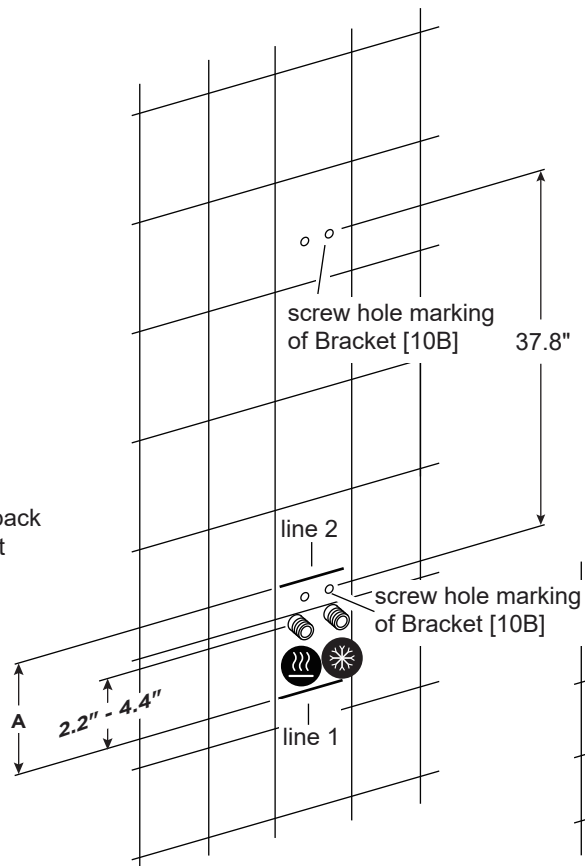

Fig 2.2
- 2-2** Measure the distance A between the bottom of the shower panel and the lower **Bracket [10B]**. Then draw line 2 above line 1 at the distance A. (Fig 2.2)
- 2-4** Position another **Bracket [10B]** above the previous one on the wall so the screw holes are 37.8" above the screw hole marks for the first bracket and center with the center line between the outlets. Then mark the screw holes of the second **Bracket [10B]** on the wall. (Fig 2.2)